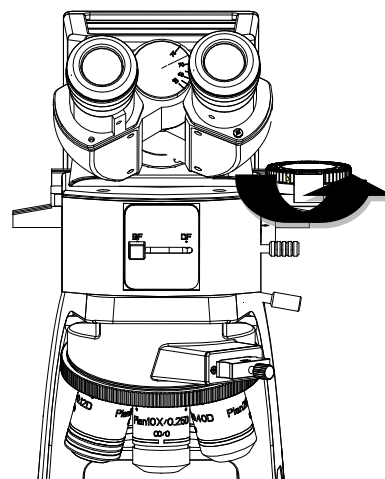

Fig.20
1. Scope of interpupillary distance is 48mm-75mm. While looking through the eyepieces, holding the left and right prism table and rotating around the axis(Fig. 20), adjusting the interpupillary distance until the left and right fields of view coincide completely.
4-7 Adjusting the Diopter(Fig.20)